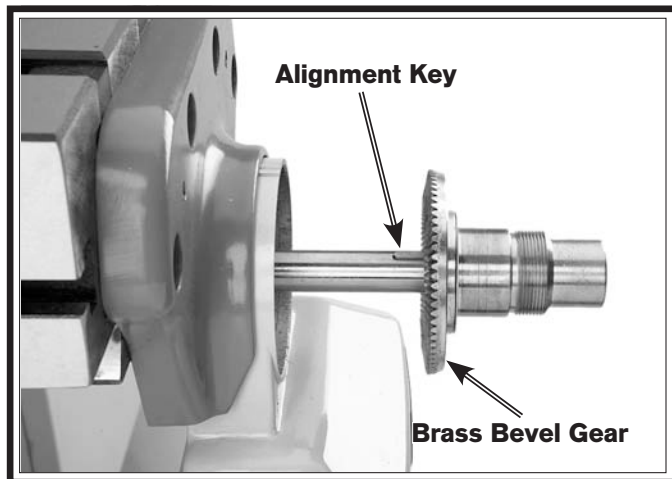

Figure 58. Power feed brass gear and leadscrew alignment key.
4. Remove the brass bevel gear from the leadscrew, then remove the leadscrew alignment key (see **Figure 58**).